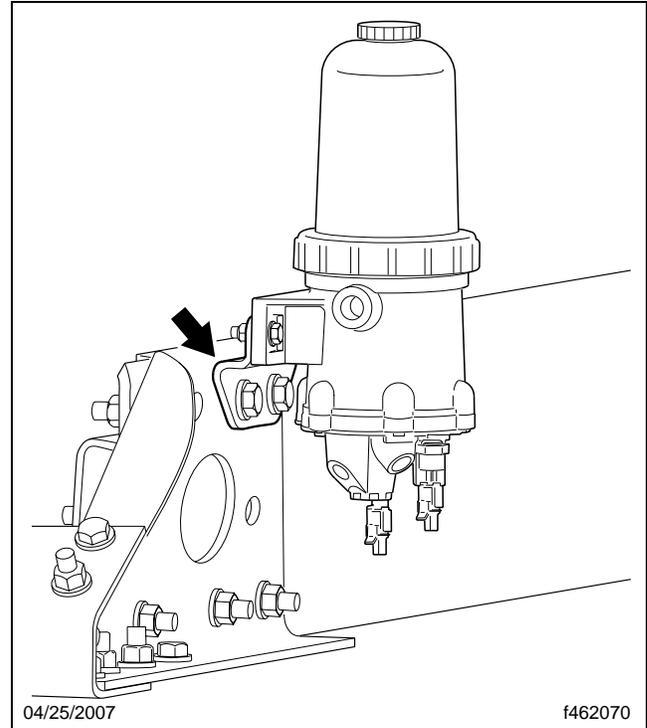

Fig. 3, Fuel/Water Separator Mounting Bracket
20. Install the fuel/water separator in the new location, as shown in **Fig. 3**.